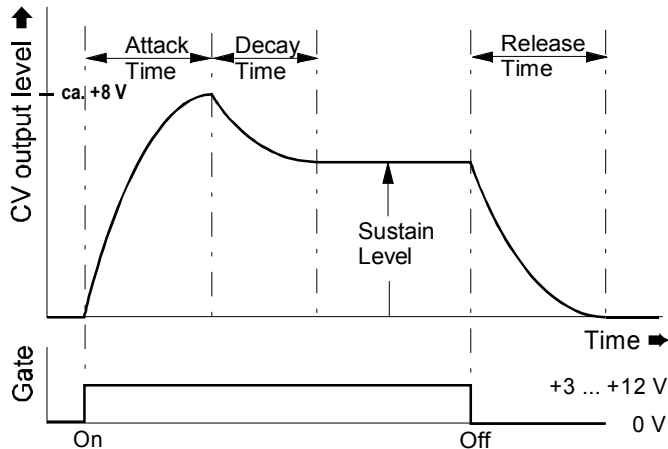

Fig. 1: ADSR envelope and its parameters
- ① **CV A** : Attack voltage control input
- ② **CV D** : Decay voltage control input
- ③ **CV S** : Sustain voltage control input
- ④ **CV R** : Release voltage control input
- ⑤ **Gate**: Gate signal input
- ⑥ **Retrig.:** Retrigger signal input
- ⑦ **Output:** Envelope voltage output
As soon as a **gate signal** is sensed at the VCADSR gate input ⑤, the VCADSR puts out a varying voltage, changing in time, known as an **envelope**. See Fig. 1.